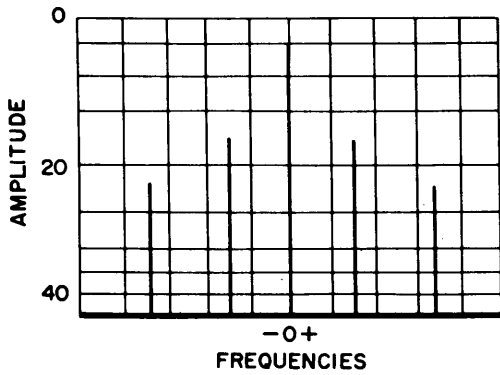
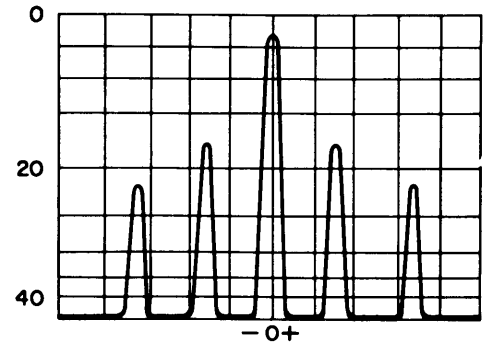

Figure I-3-1. Theoretical Appearance of Frequencies at 100% Resolution
Figure I-3-2. Appearance of Frequencies at Less Than 100% Resolution on PTE Screen
(1) Introduction. Before operating the PTE for the first time, the operator should review the basic theory involved in sideband transmission and the frequency components to be expected in the PTE display. For purposes of clarity, magnitudes of tones versus carrier magnitude are arbitrary in the following representations.
(2) Screen Display Representation. The PTE screen presents a graph of frequency within a determined bandwidth (along the horizontal axis) plotted against amplitude (along the vertical axis). If 100% resolution were possible, each frequency would appear as a vertical line as shown in figure I-3-1. Since 100% resolution is not possible, due to a finite sweep speed, the frequency indications generally appear as narrow inverted V's as shown in figure I-3-2. These V's can be further narrowed into almost a vertical line by sharpening the resolution controls on the PTE control panel when necessary. The procedure for sharpening resolution is included in table I-3-2.